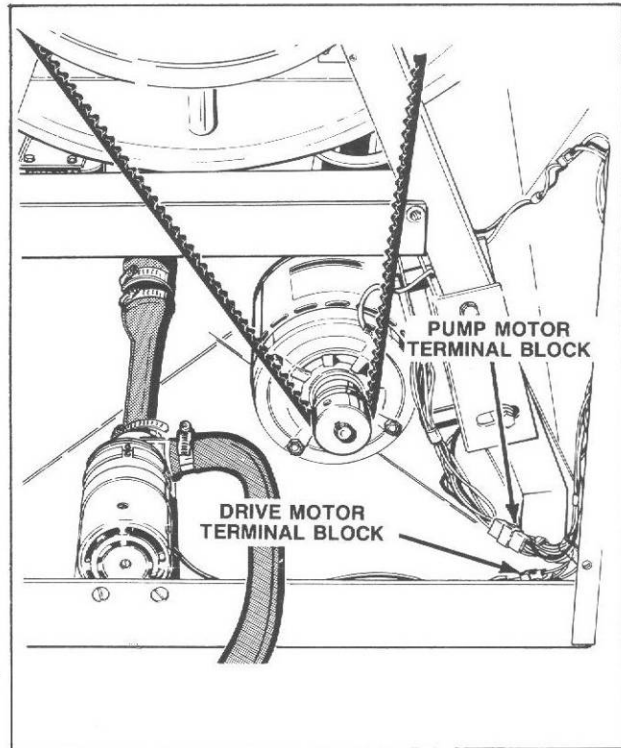

Figure 56
**58. PUMP MOTOR** (Refer to Figure 56)
**59. DRIVE MOTOR** (Refer to Figure 56)